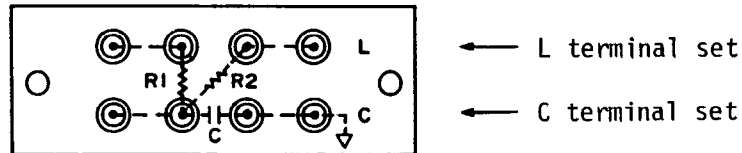

Figure 4-6. HP 16074A Quasi-inductor.
3. Connect 100 μ H quasi-inductor "L" terminals direct to 4275A UNKNOWN terminals. See Figure 4-6.
7. Connect the 100mH quasi-inductor "L" terminals directly to the 4275A's UNKNOWN terminals. See Figure 4-6.